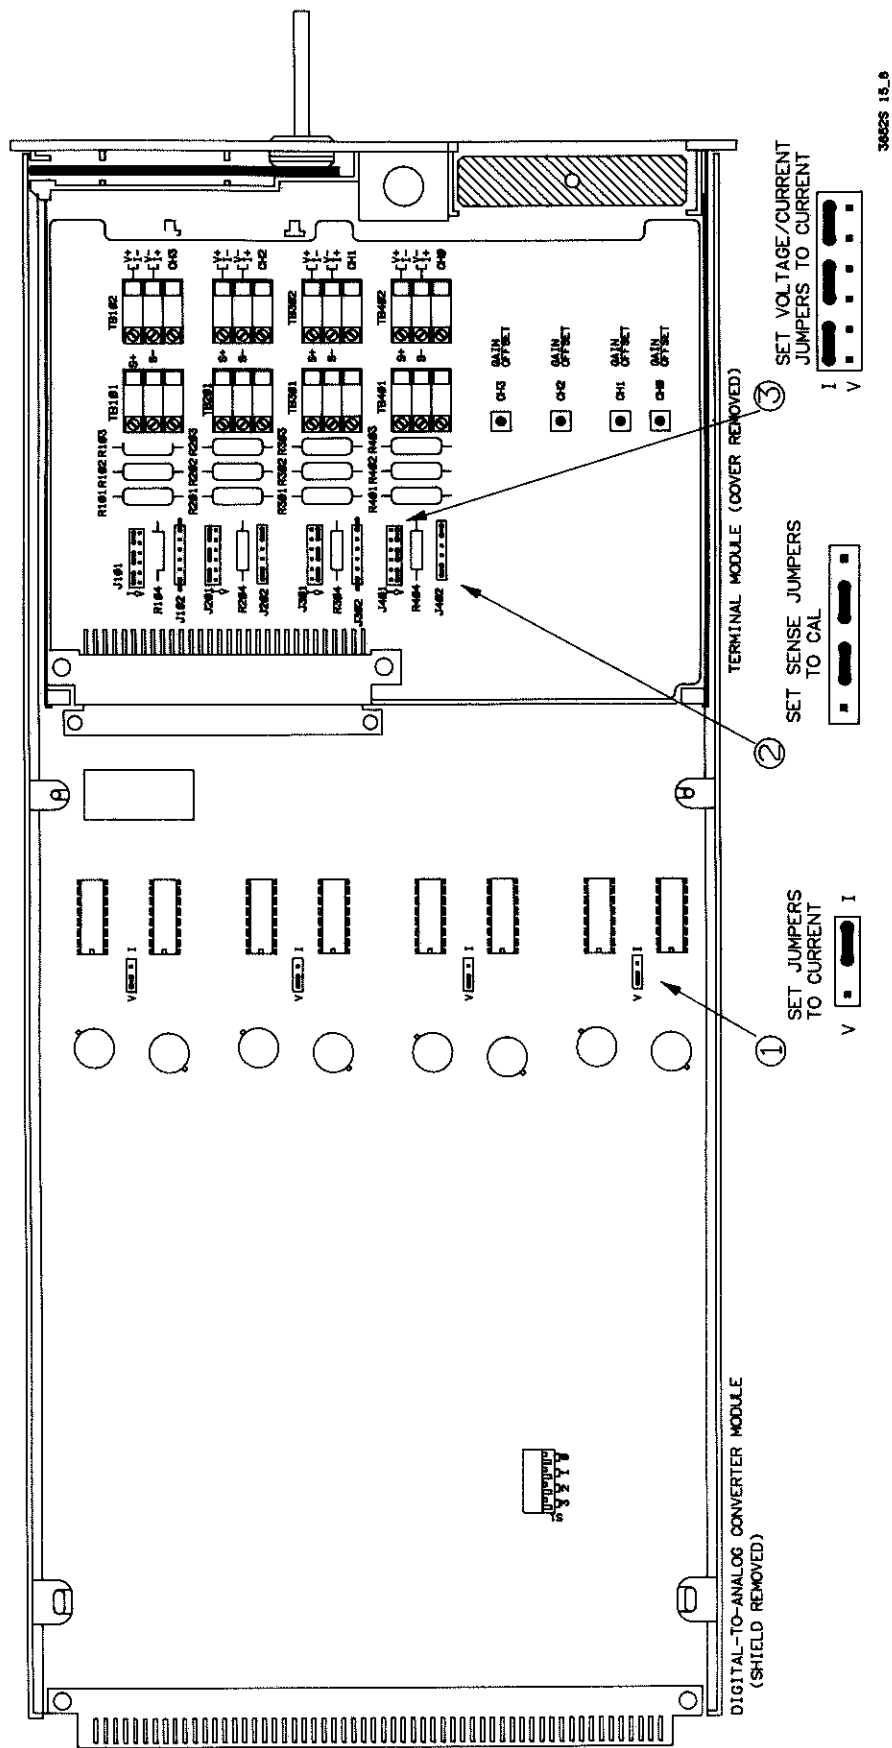

Figure 15-18 Current Calibration Configuration
2. To calibrate a channel in the current mode, the jumper and switch configurations must be as shown in Figure 15-18. Reconfigure the component module/terminal module jumpers and component module switch if necessary.